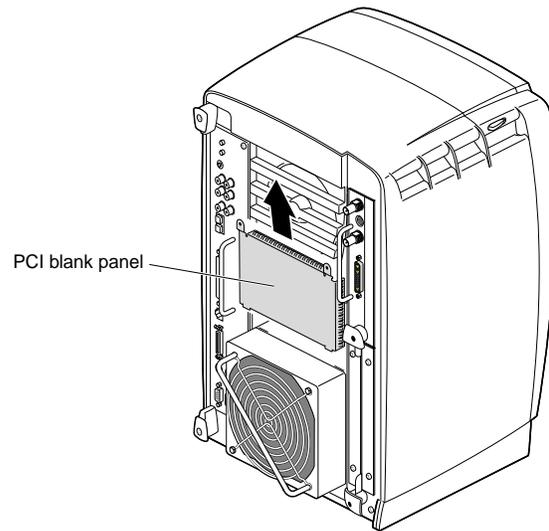

Figure 4-47 Removing the Blank Panel
3. Pull the panel outward and lift it up and out, as shown in Figure 4-47.